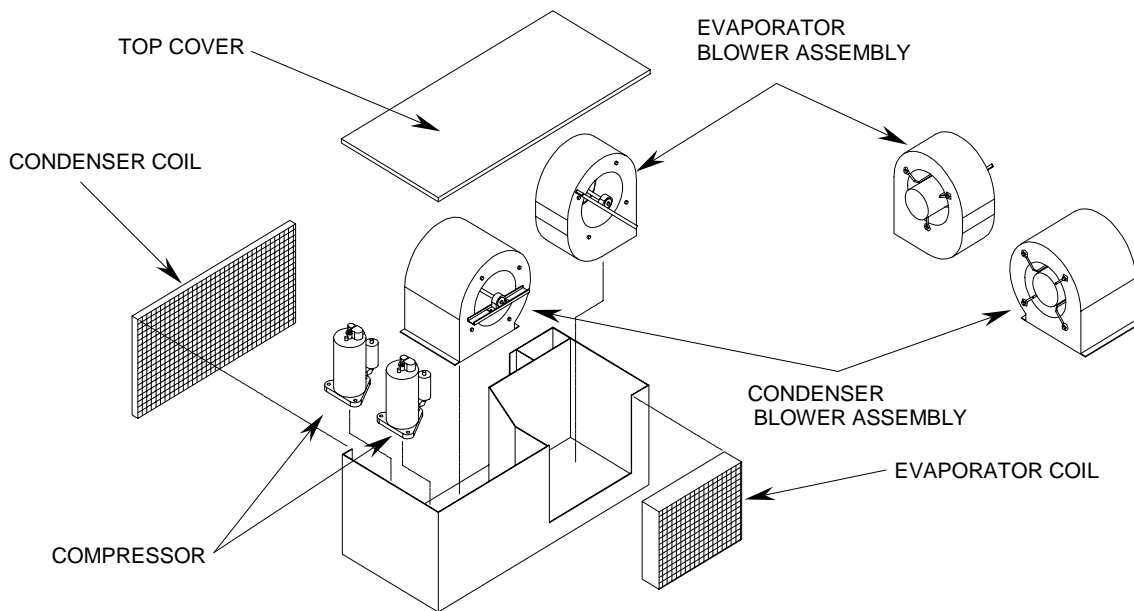

Figure 1. Air Conditioner Repair.
**Remove and Replace Evaporator Blower Motor:** Remove the air conditioner top cover (see Figure 1). Label and disconnect the evaporator blower motor wiring in the wire box. Slide the wiring harness through the side wall. Remove the hardware from the side panel and remove the evaporator blower assembly from the air conditioner.
**Remove and Replace Condenser Blower Motor:** Remove the air conditioner top cover (see Figure 1). Remove the six nuts that attach the blower motor assembly to the side panel. Label and disconnect the condenser blower motor wiring. Remove the blower motor assembly from the air conditioner.